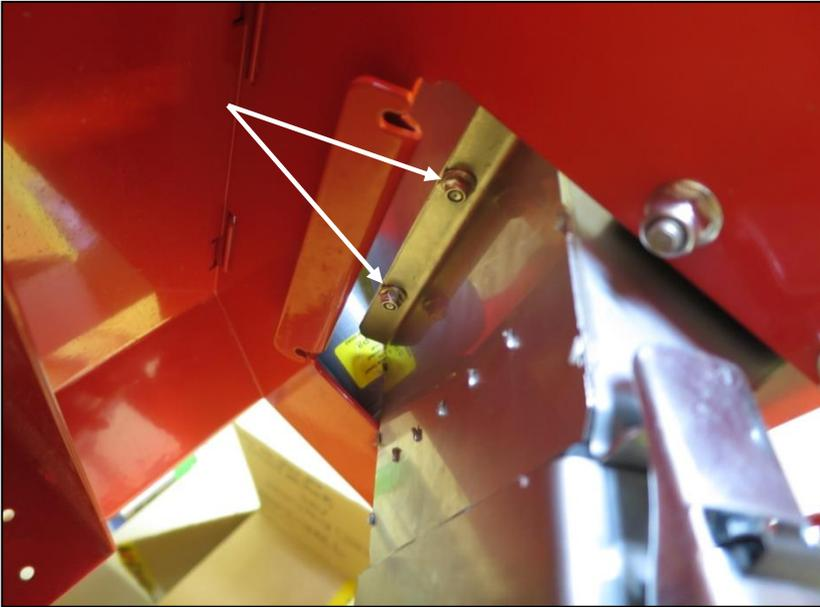
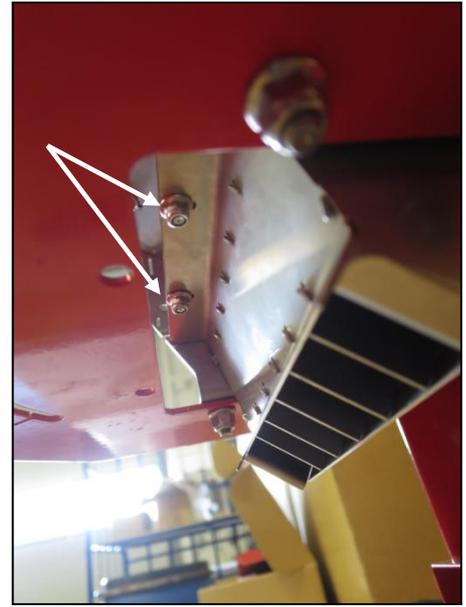
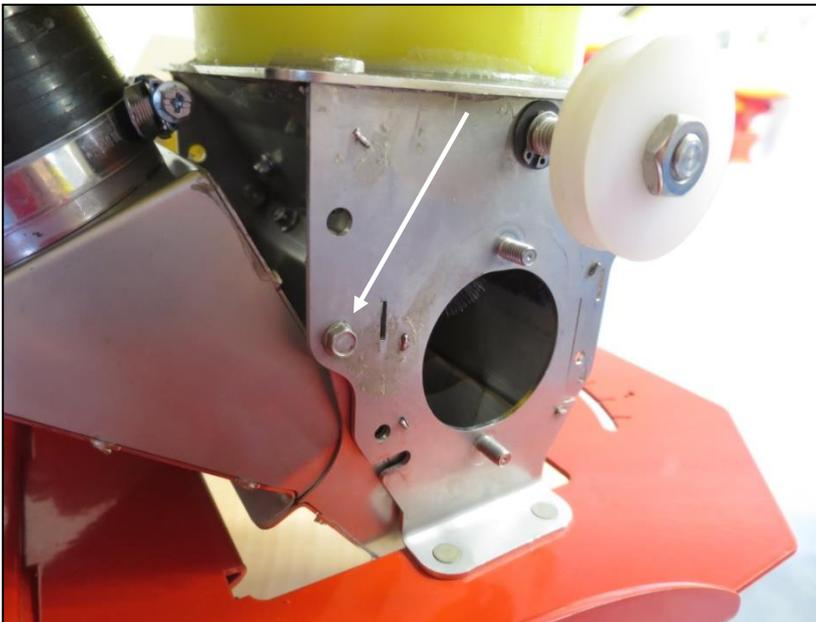

Fig.: 14
Fig.: 15
Fig.: 16
- To remove the air channel, loosen the flange nuts marked in Fig.: 14 and Fig.: 15 (they are located on the front and rear side of the air channel). Now loosen the bolts marked in Fig.: 16 on both sides. Remove the air channel towards the bottom.